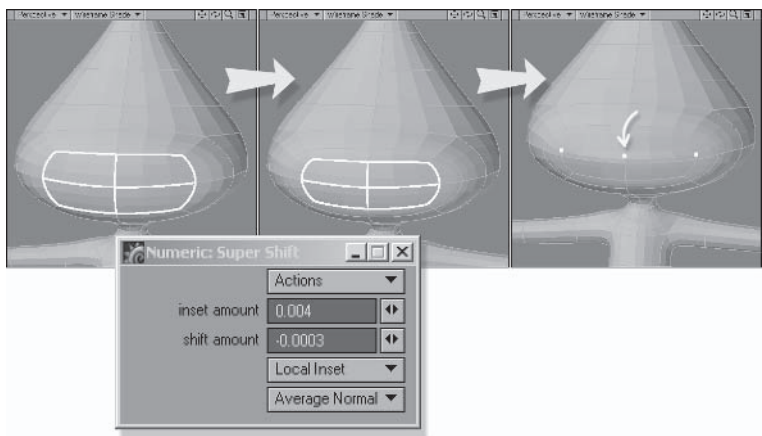

Figure 3.3-7. If you select the three points from the Right view it looks like you're only selecting two points.
- 2. Select the four polygons shifted in the previous step and **Super Shift** again with the settings shown in Figure 3.3-7. Select the top three points of the shifted polygons and **Move** them down close to the middle points. Then **Move** the bottom three points up close to the middle.